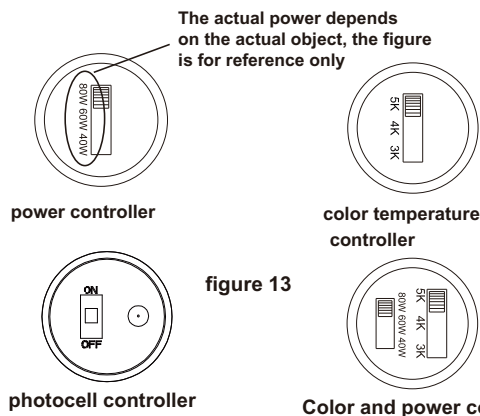
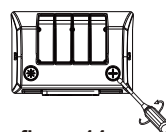

figure 13
figure 14
Step 3: After adjusting the required control function (figure 13), tighten the metal plug and the plastic plug clockwise (figure 14).